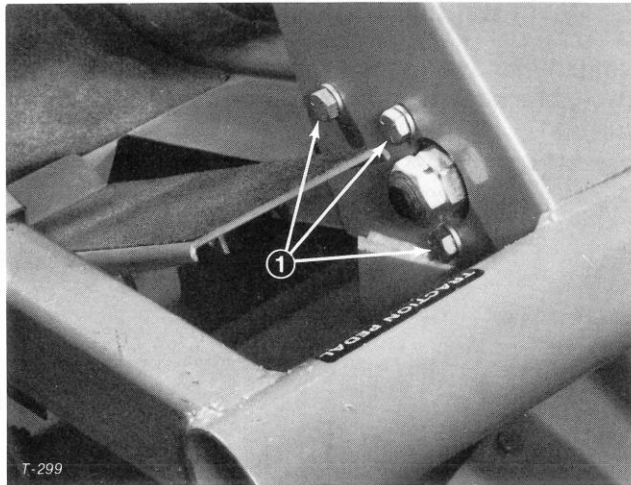

Figure 1
1. Pivot steering post upward until holes in steering tower line up with holes in side of steering gear. Retain steering gear to steering tower with three capscrews (3/8 - 16 x 1 in. - 25 mm) and lockwashers (3/8 in. - 10 mm - med), but do not tighten the capscrews (Fig. 1).
5. Tighten the three capscrews holding steering gear to side of steering tower (Fig. 1). Also install the knob on parking brake rod.